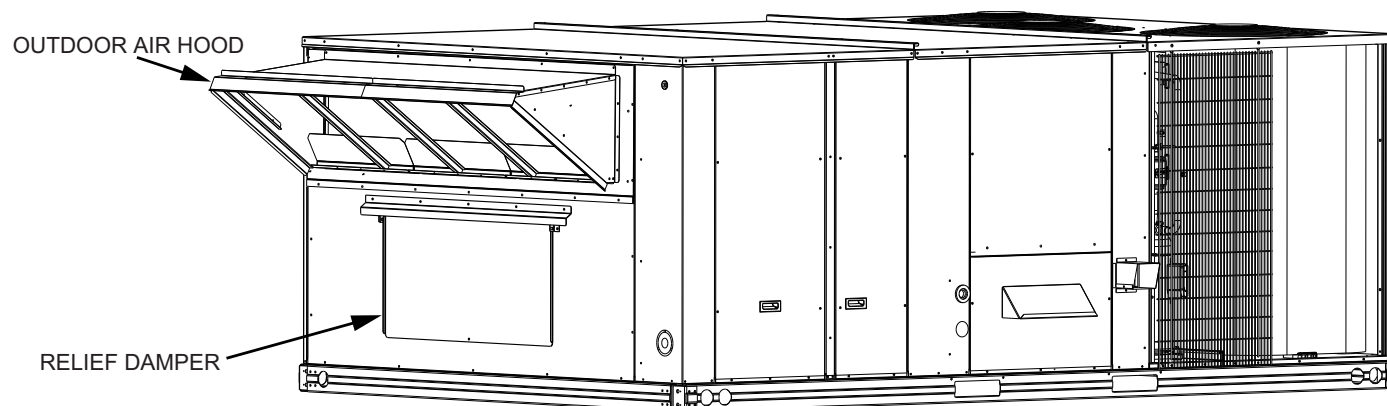

Fig. 23 — Reinstall Hinges and Damper on Return Duct
panel. Screw panel in place and screw panel into economizer in 2 places. (See Fig. 23.)
13. If barometric relief is required, remove the relief damper and hinges from the (provided) bottom panel used on vertical applications. Reinstall the hinges and damper on the side of the field supplied return duct. (See Fig. 23.)